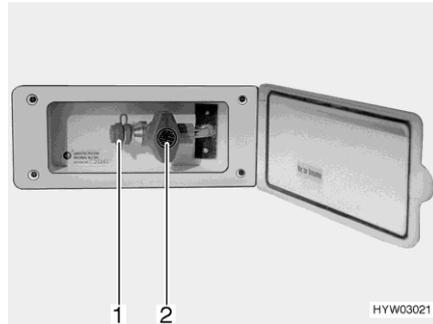

Fig. 116 External gas connection
- Connect the external gas device to the connection point (Fig. 116,1).
- Open the gas isolator tap (Fig. 116,2).